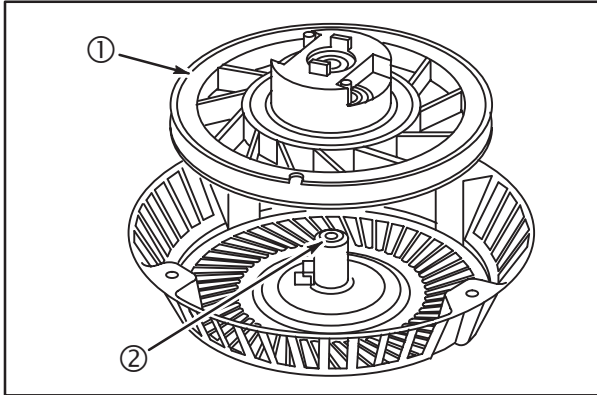

Fig. 60
2. Assemble starter pulley (1) and spring assembly to center pivot post (2) in housing, **Fig. 60**.